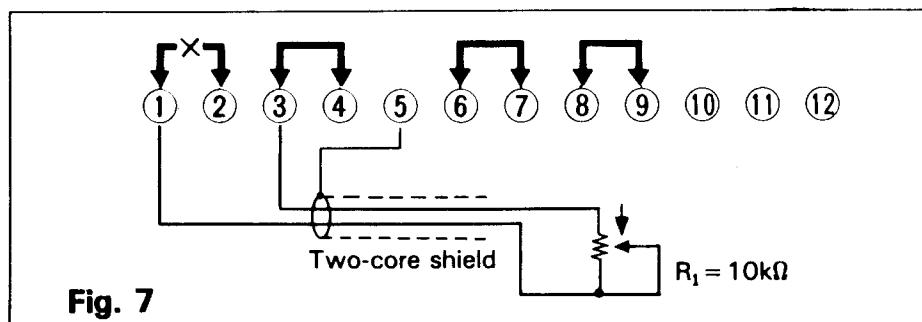

Fig. 7
- 2) Remove the short bar ① - ② .
- 3) Connect variable resistor  $R_1$  (10 k ohms) across ① and ③ as shown Fig. 7.